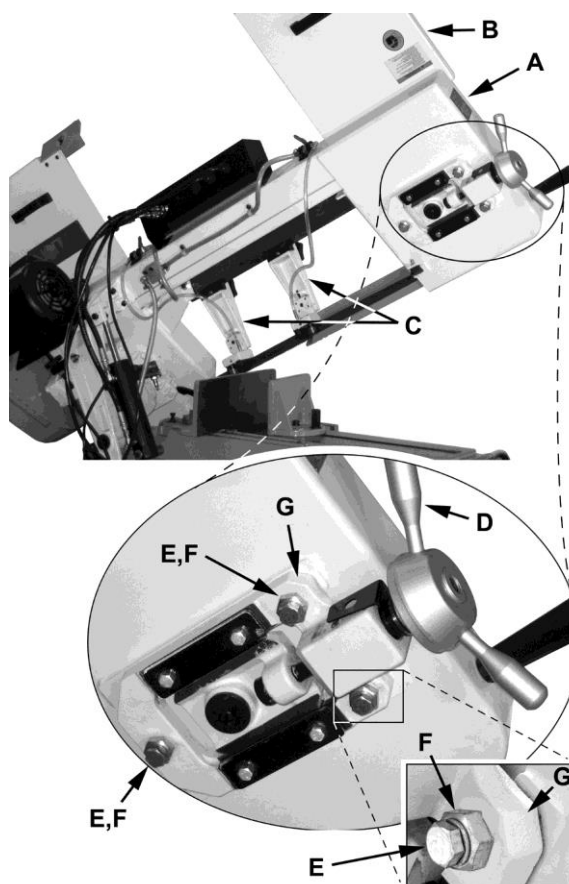

Figure 13
Refer to Figures 13 and 14.
10. Turn the *adjustment screws* (F) slightly in the counterclockwise direction. This assures that the blade is not touching the shoulder of the wheel.
12. Tighten the *hex locking screws* (E).
13. Install the *blade-guide bearing bracket assemblies* (C, Fig. 13).